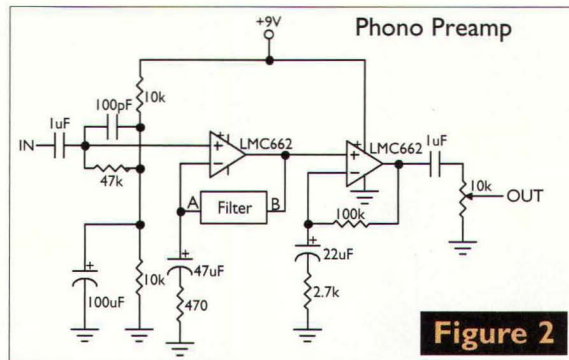

Figure 2
(Figure 2) for the medium you wish to play back and you're in business. The output volume is adjusted via the 10K potentiometer.
Q. You had several good circuits in the Sept. 2003 issue, but one that specifically caught my eye was "At A Crossing." As an experiment, I built the "LED Flasher" (Figure 2). When I replaced the 220K resistor with 1 Meg, and the 1 μ F capacitor with 10 μ F, I was really happy with the timing. My problem is that what I really need is the ability to vary the duty cycle of the LEDs (shorten one and lengthen the other). Ideally, I'd like to go from 0% to 100%, however, something like 10% to 90% would do just fine. I've begun to believe that a 555 may be designed specifically for 50%, and therefore, not be good for this.